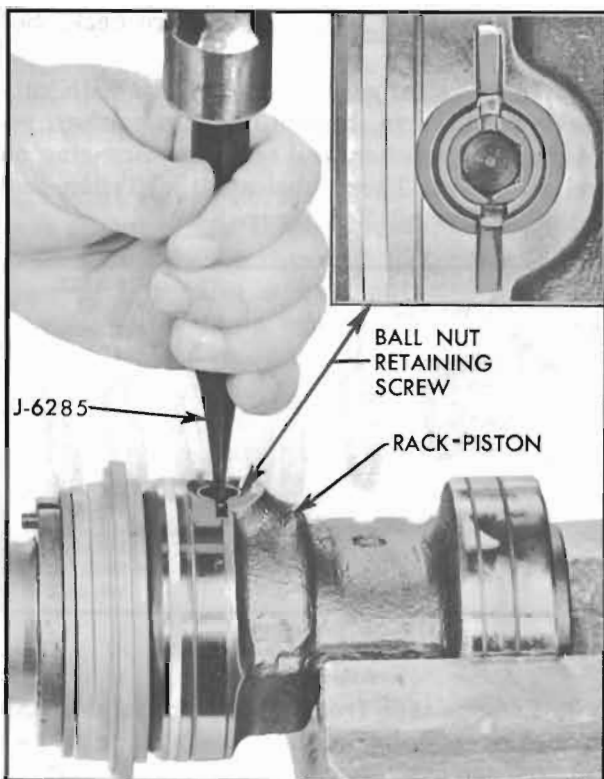

Figure 8-34—Staking Ball Nut Retaining Screw
9. Install the ball nut retaining screw using Allen wrench and tighten to 30 to 35 ft. lbs. Stake screw securely using Staking Tool J 6285. See Figure 8-34.